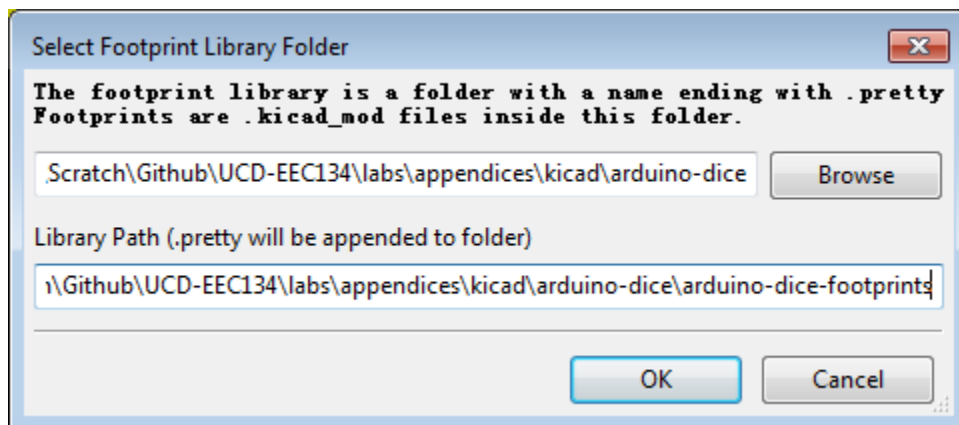
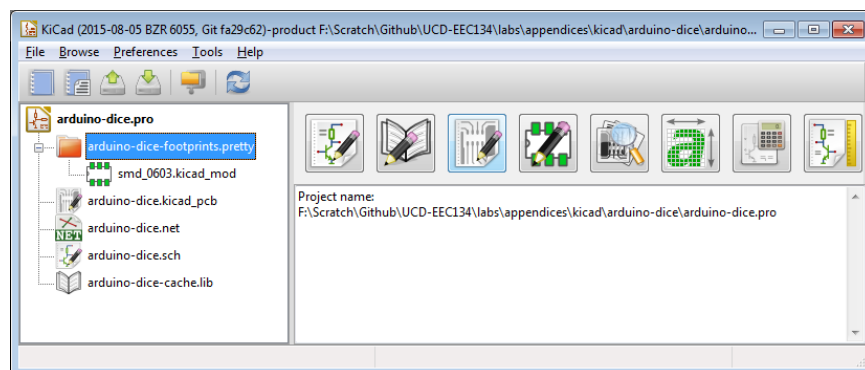

Figure 15: The “Select Footprint Library Folder” dialog box.
Figure 16: The new footprint library is now visible in the project tree.
10. We wish to create a new library to contain our newly created footprint. To do this, click the “Create new library and save current module” icon. Set the location and name of the library and click “OK”. The “Library Path” field should contain the full path to your desired library location. In this example, we will create a footprint library with the name “arduino-dice-footprints” (KiCad will automatically add the “.pretty” suffix) under the project folder “...\arduino-dice”. Fig. 15 shows the proper settings. At this point, a new folder named “arduino-dice-footprints.pretty” should appear in the project tree in the KiCad main window (Fig. 16). Click on the “+” sign will expand the library and show all the footprints in this library; in this case, we only have the “smd\_0603” footprint.